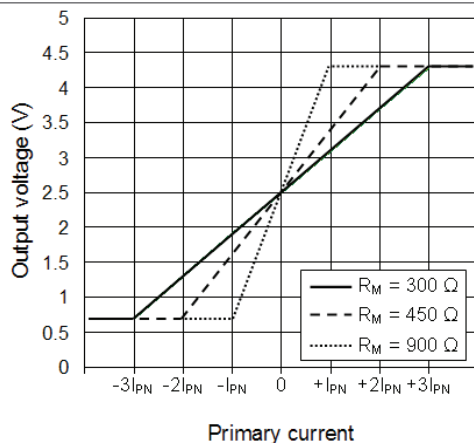

Fig. 2: Characteristic of primary current to output voltage according to different R_M . $V_{refout} = 2.5\text{ V}$.
³⁾ Output voltage is scaled by changing R_M but not beyond these limits. See Fig. 2.
- ⁴⁾ $R_M > 300 \Omega$: reduces I_{PRI} but increases G_V . See Fig. 2.